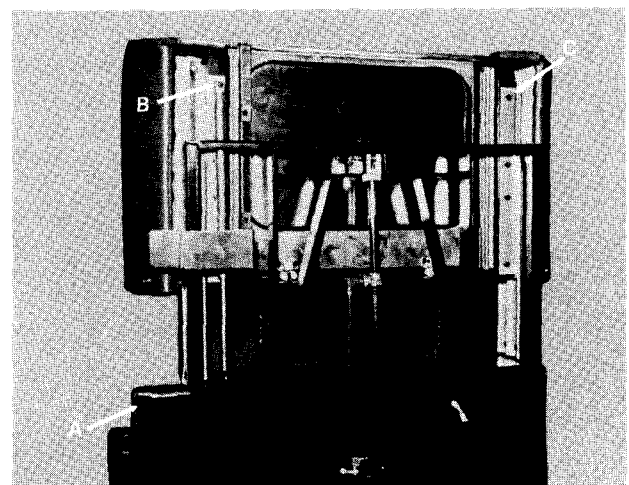

Fig. 7
- 5) On the 114 Only, remove the (4) wood screws located under the front outer edge of the seat section. Item A, Fig. 7.
- 5) On the 114 Only, install (4) wood screws under outer front edge of seat section, Item A, Fig. 7
- 1) Remove screw Item B, Fig. 7, from lateral locking mechanism to expose (4) mounting screws.
- 2) Remove (4) mounting screws from each side of frame, Item C, Fig. 7.
- 4) Remove (4) # 10-24 x 5/8" screws from upholstered foot section.
- 1) Place footrest upholstered section on frame and align holes and install (4) # 10-24 x 5/8" screws in footrest upholstered section.
- 2) Install (4) mounting screws on each side of frame, Item C, Fig. 7.
- 3) Install screw, Item B, Fig. 7 in lateral locking mechanism.